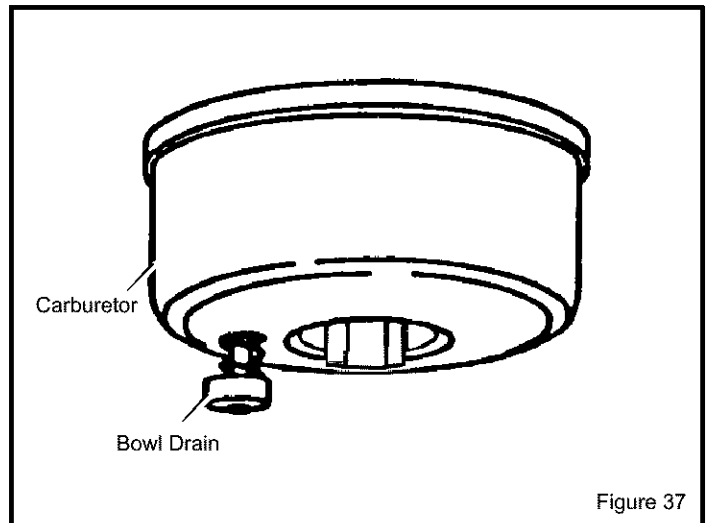

Figure 37
1. To remove gasoline, run engine until tank is empty and engine stops. Then drain remaining gasoline from carburetor by pressing upward on bowl drain located on the bottom of carburetor (see Figure 37).